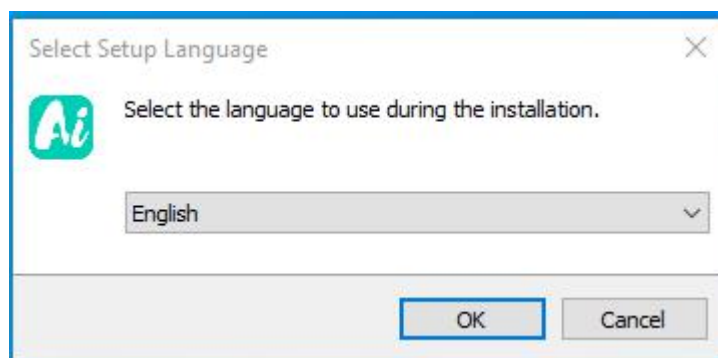

Figure 2
3.1.2 Select “Setup Language”, as shown in Figure 2: